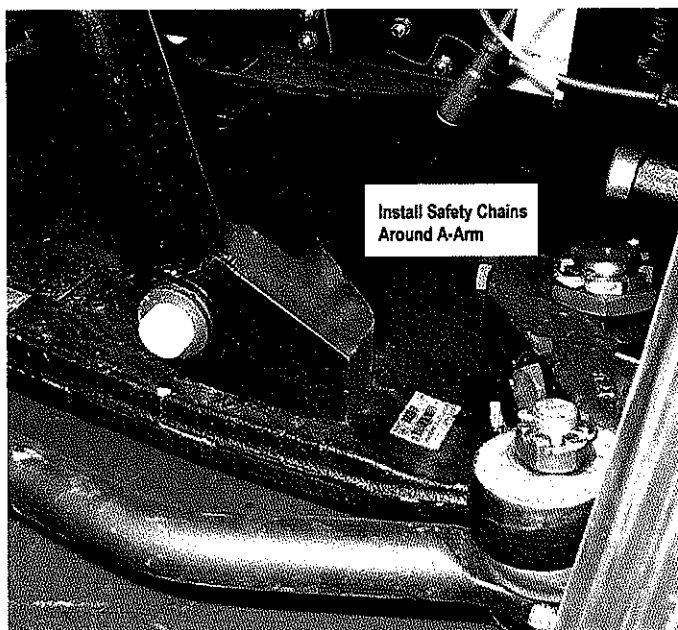

Figure 5 - Front Axle
- Maneuver wheel grid into position. After coach has been lifted, install safety chains on lower A-arms. (See fig. 5)